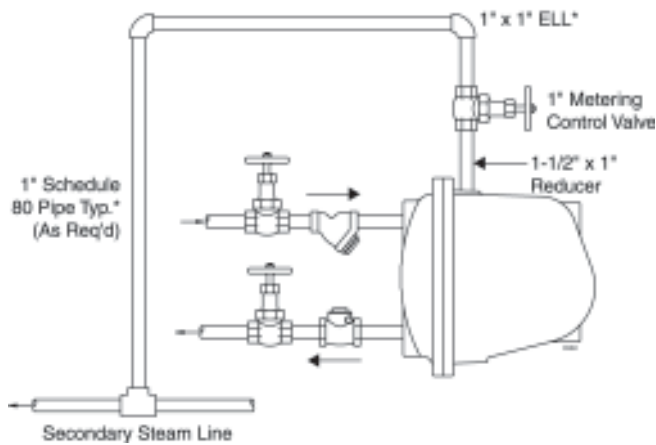

Figure 3
- D) When secondary steam is to be collected and reused in heat transfer equipment, refer to the piping arrangement in Figure 3.